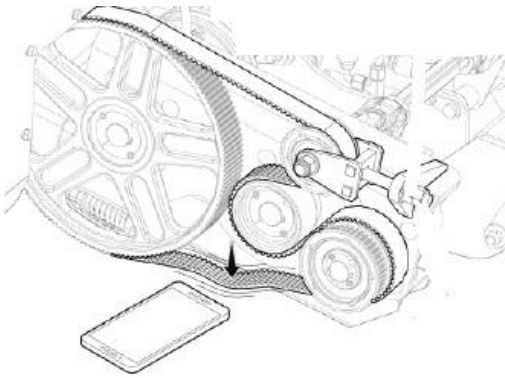

Figure 2
- Hold the phone under the long span of the belts with the Fine Tuner app turned on. (Figure 2)